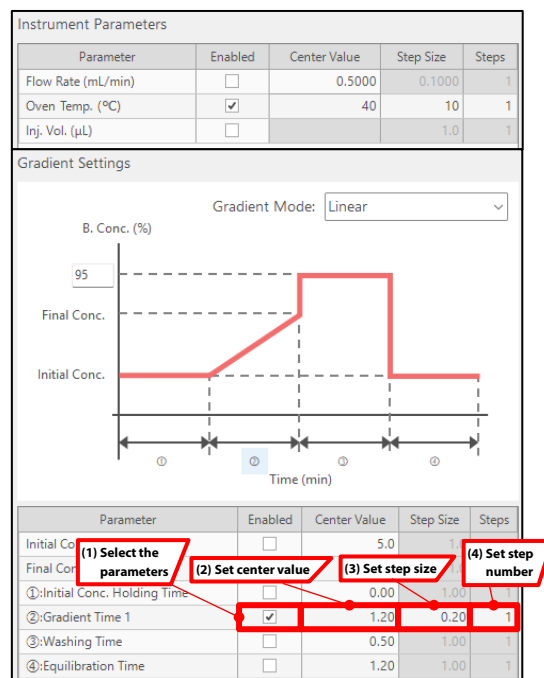

Fig. 4 Analysis Schedule Creation Screen
LabSolutions MD can automatically generate analysis schedules while avoiding human error based on comprehensive combinations of user-defined parameters (Steps (1)–(4) in Fig. 4). This enables anyone to perform separation optimization easily and quickly. For example, when varying the gradient time (red box in Fig. 4), an entered center value of 1.2 min is adjusted by one step above and below the center at 0.2-min increments, resulting in automatically generated schedules of 1.0, 1.2, and 1.4 min. In this study, a total of 18 analytical conditions ($2 \times 3 \times 3$) were automatically generated by combining two initial concentrations (5% and 10%), three gradient times (1.0, 1.2, and 1.4 min), and three column oven temperatures (30, 40, and 50 °C). These conditions were then used to comprehensively evaluate the separation.